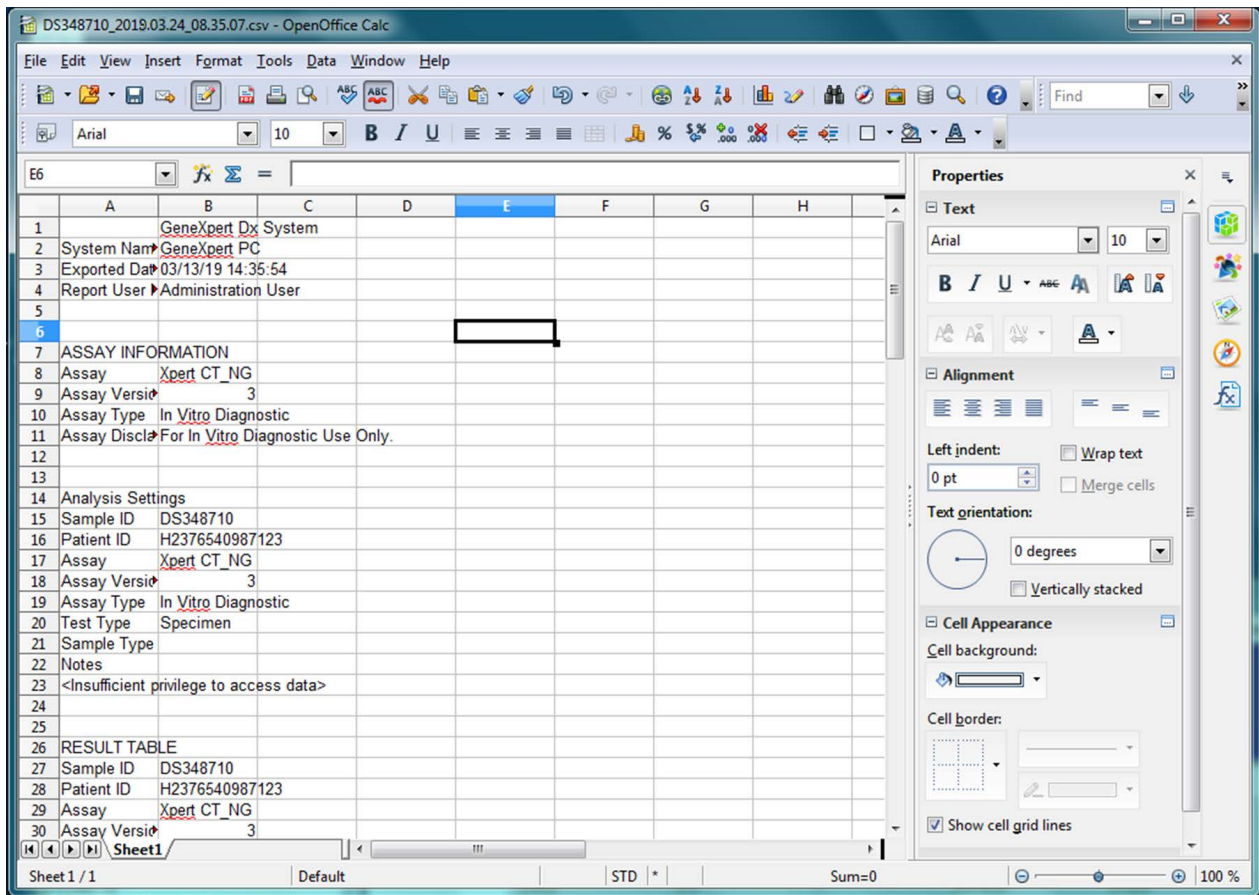

Figure 5-63. Example Exported Test Results
8. Click the checkbox to the left of **Default value**, and then click **OK** to close the dialog box. The column widths will then adjust and the file will be formatted, as shown in Figure 5-63. Click anywhere in the blank columns to “deselect” the blue cells and turn the cells white again.